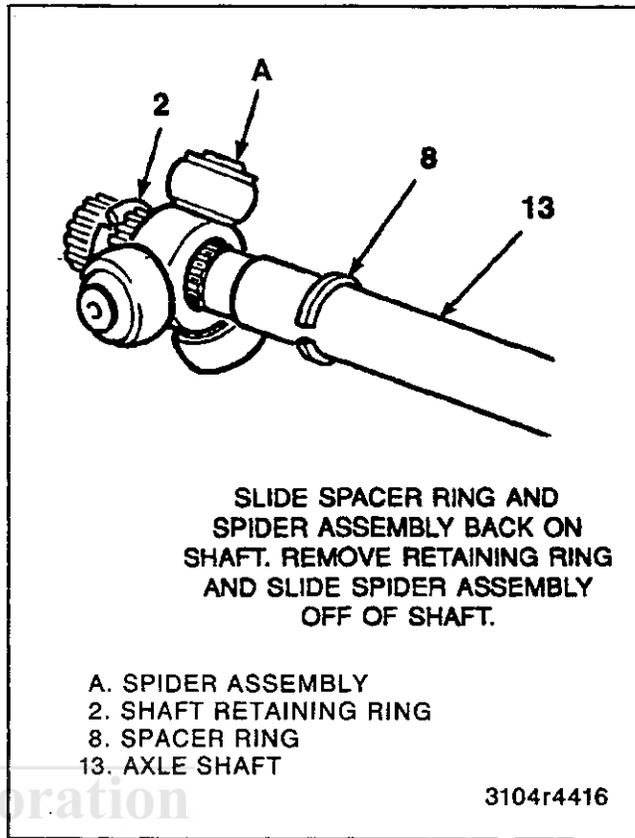

Figure 21—Removing Spider Assembly
- Do not cut through the seal (10) with the chisel and damage the sealing surface of the tripot outer housing (1).
2. Small seal-retaining clamp (11) from the axle shaft (12) with a side cutter, and discard.
- Separate seal (10) from the tripot housing (1) at the large diameter and slide the seal away from the joint along the axle shaft (13).
3. Tripot housing (1) from the spider (3) and shaft.
- Spread the spacer ring (8) with J 8059 and slide the spacer ring and the tripot spider (3) back on the axle shaft (13).
4. Shaft retaining ring (2) from the groove on the axle shaft (13) and slide the spider assembly off the shaft (figure 21).